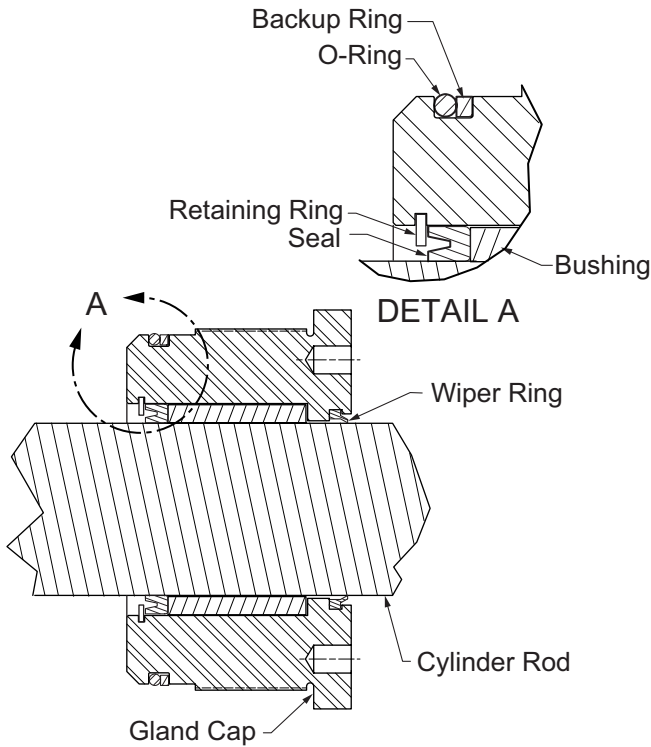

Figure 5-7, Gland Cap Seal
3. Install the seals and wipers in the gland cap. Note the direction of the seals. The cupped side or O-ring side of the seal should be facing the piston. (Figure 5-7)